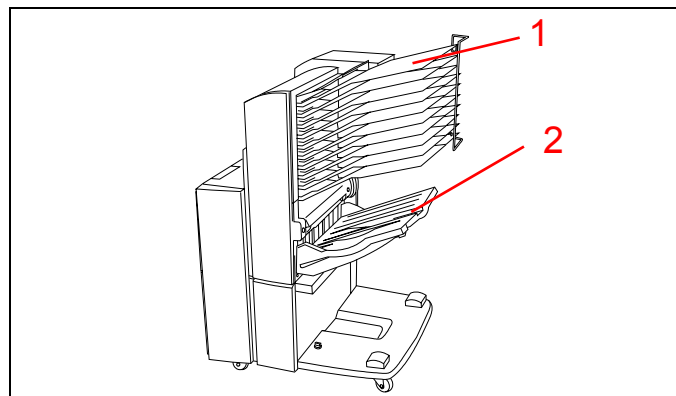

Figure 10
**Explain** that the optional sorter/mailbox may be used to sort up to 10 copy sets and will hold up to 100 sheets in each bin. See Figure 10.